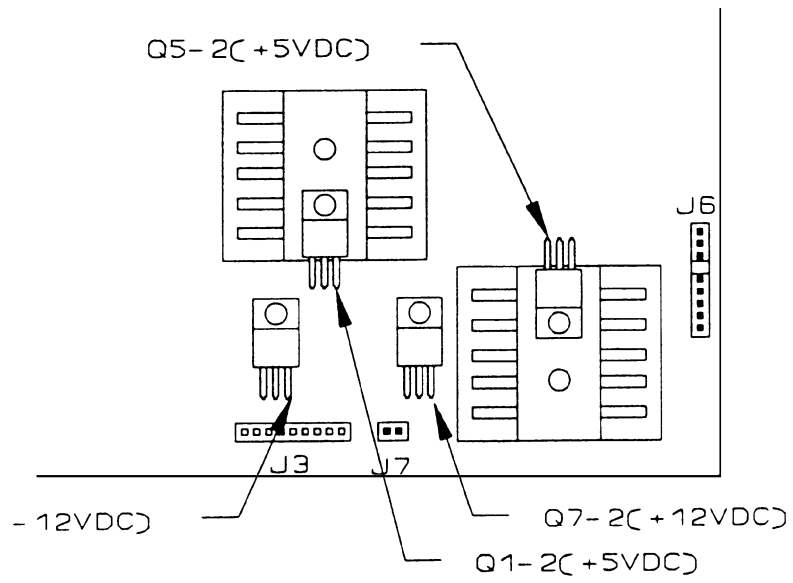

Figure 7-3: Dual Display PCB DC Voltage Checks
All DC voltages listed are referenced to chassis ground (minus meter lead to chassis ground). Refer to Figure 6-2 in Section 6.1.2. for connector locations and Figures 7-3 and 7-4 for component locations.
- 2 - **+5 VDC**: Regulated control logic supply, (Q5 pin 2, Figure 7-3).
- 3 - **+5 VDC**: Regulated display logic supply, (Q1 pin 2, Figure 7-3).
- 7 - **-12 VDC**: JW and JY Port RS-232 Supply, (Q6 pin 2, Figure 7-3).